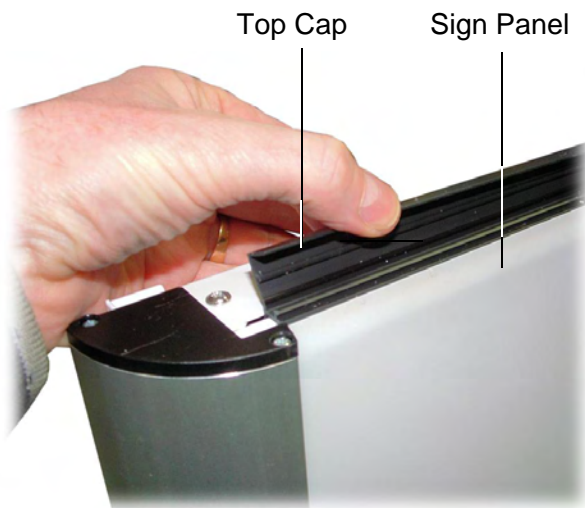

Figure 11:
2. Unclip the sign top cap. Start at one end and work along the length of the sign, lifting the top cap up as you go (see Figure 11 below).